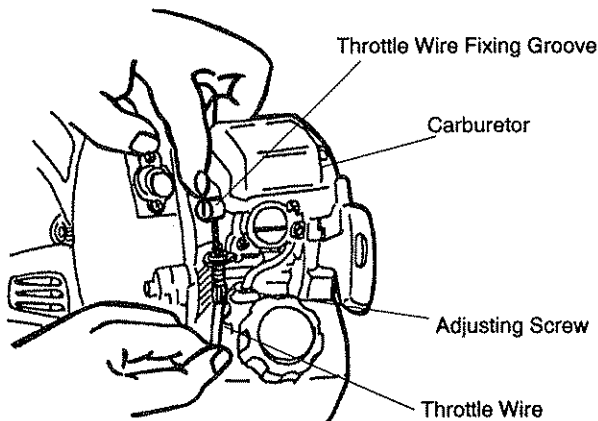

Figure 2
4. Set the throttle wire to the throttle shaft through the adjusting screw of the carburetor. Figure 2. ACTION OF THROTTLE LEVER, IT SHOULD MOVE FREELY IN BOTH DIRECTIONS.